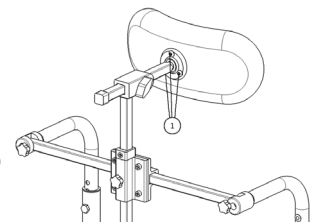

Fig. 41
- Install headrest on the ball pivot and tighten the three screws (1) (Fig. 41).